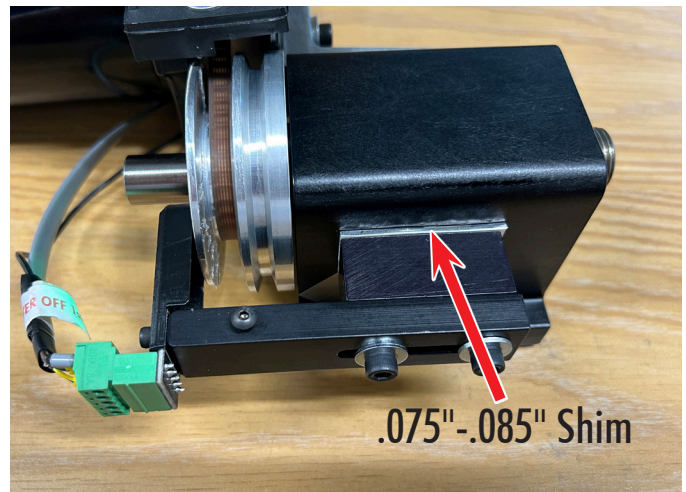

FIGURE 3—Showing the .075"-.085" shim stock installed between the headstock and the encoder headstock spacer.
4. Customers who are having a problem with their 10,000 RPM pulley with the MASSO control can either add a .075"-.085" spacer piece (or shim stock) under the existing headstock spacer (see Figure 3), or contact us for a new spacer (P/N 87816) that is .790"-.795". Then they will need to adjust the encoder gap to .055".